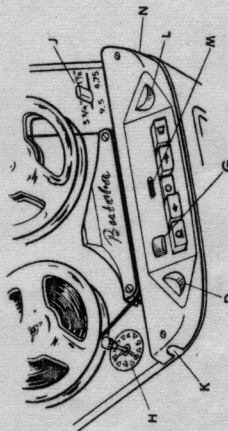

Fig. 7
"J" to the left, see fig. 7.
Push lever of switch "J" to the right, see fig. 7.
- Shift quick-start lever to the left, see fig. 7.
- Adjust sound volume by turning knob "P", see fig. 7.
- Regulate tone control by turning knob "L", see fig. 7.